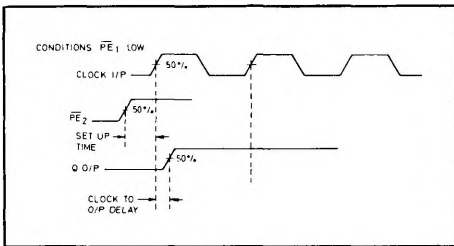

Fig. 3 Set-up timing diagram
- Set-up time is defined as the minimum time that can elapse between a L \rightarrow H transition of a control input and the next L \rightarrow H clock pulse to ensure that the \bar{Q} mode is forced by that clock pulse (see Fig. 3).